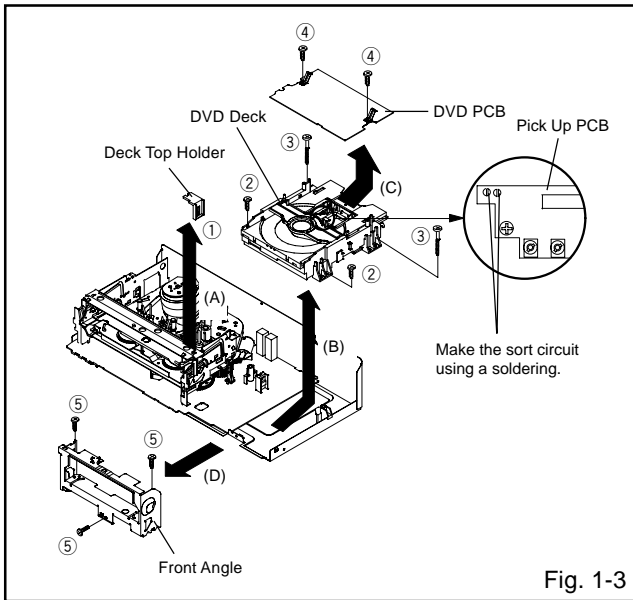

Fig. 1-3
1-3: DVD DECK/DVD PCB (Refer to Fig. 1-3)
1. Make the short circuit on the position as shown Fig. 1-3 using a soldering. If you remove the DVD Deck with no soldering, the Laser may be damaged.
2. Unlock the support ① and remove the Deck Top Holder in the direction of arrow (A).
3. Remove the 2 screws ②.
4. Remove the 2 screws ③.
6. Remove the DVD Deck in the direction of arrow (B).
7. Remove the 2 screws ④.
9. Remove the DVD PCB in the direction of arrow (C).
10. Remove the 3 screws ⑤.
11. Remove the Front Angle in the direction of arrow (D).